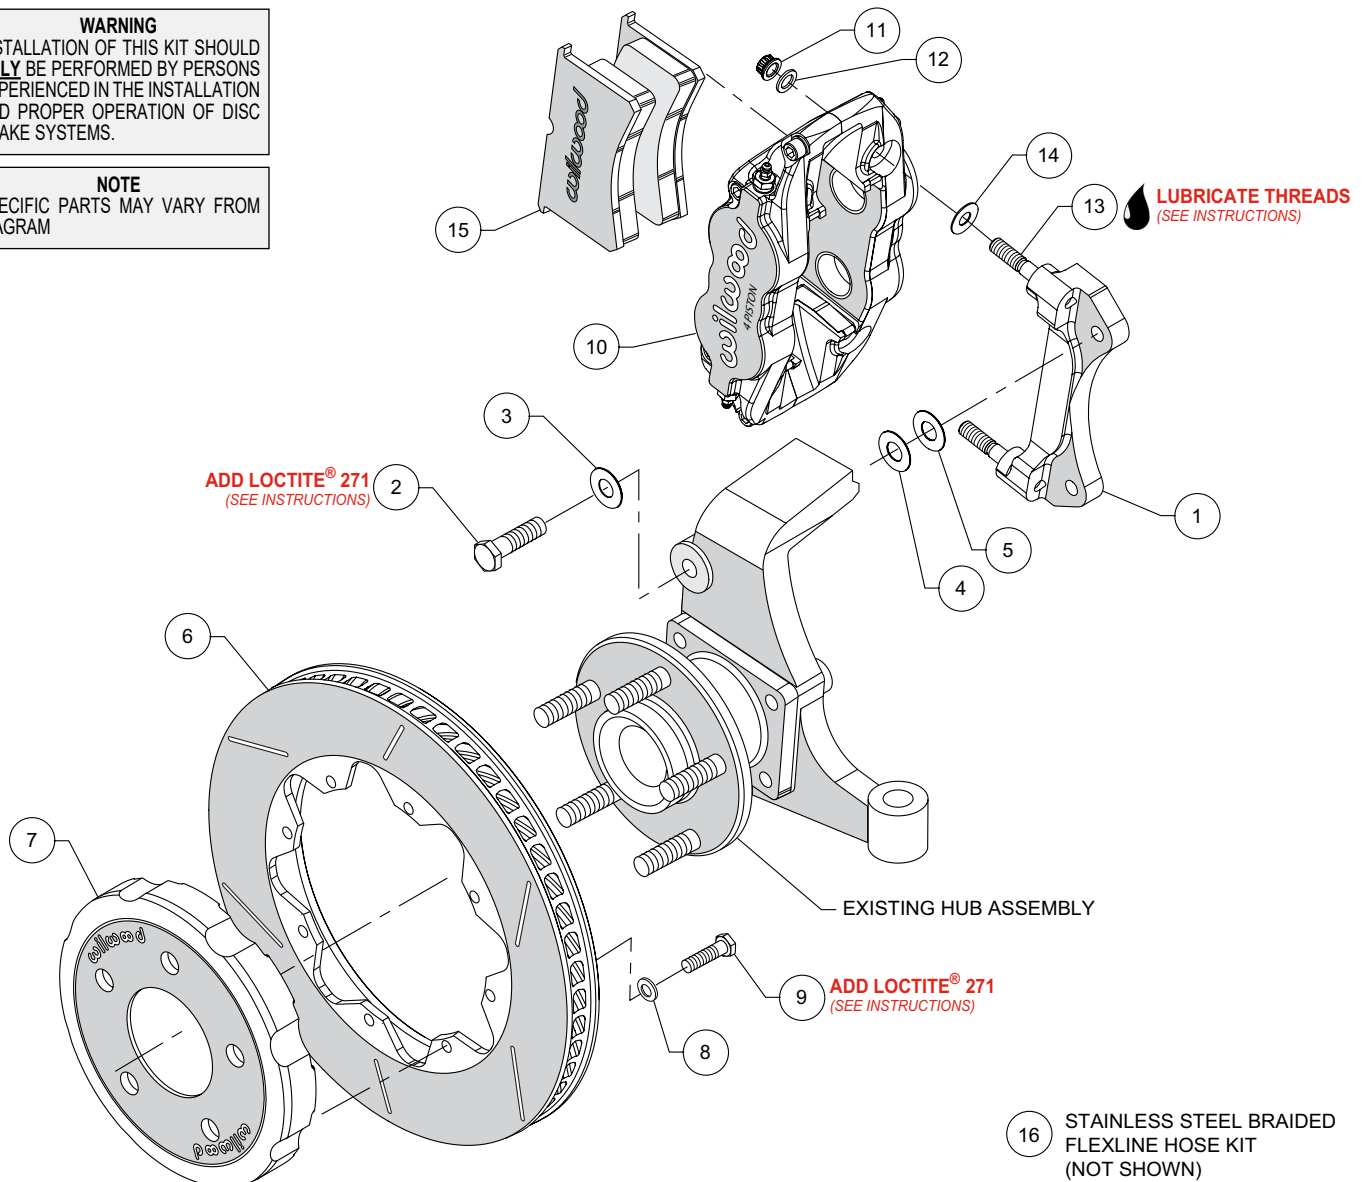
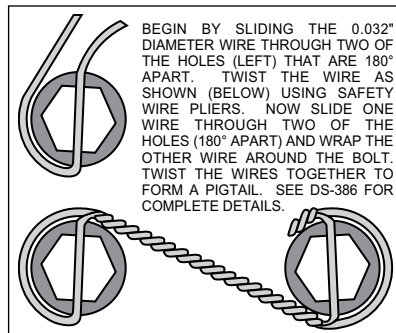

Figure 1. Typical Installation Configuration
Figure 3. Safety Wire Diagram
NOTE: Numbers in parenthesis refer to the parts list and Figure 1 on the preceding pages.
- The caliper mount bracket assembly (1) should be installed first with clean, dry threads on the mounting bolts. Install the bracket on the inboard side of the spindle by sliding bolt (2) through flat washer (3), and spindle ear from the outboard side of the spindle. Place two shim washers (4) between the bracket (1) and the spindle (see figure 1). The bracket must tighten squarely against the inboard side of the caliper mount bosses on the spindle body. Inspect for interference from casting irregularities, machining ridges, burrs, etc. Later, after the caliper, pad, and rotor alignment has been checked, and any necessary shims have been put in place, the mount bolts should be coated with red *Loctite*® 271 and torqued to 65 ft-lbs.
- With the larger I.D. side of the rotor (6) facing away from the hat (7), attach the rotor (6) to the hat (7) using washers (8) and bolts (9) as shown in Figure 1. Apply red *Loctite*® 271 to the bolt threads and torque to 25 ft-lbs using a criss-cross pattern. For an added measure of security, the bolts may be safety wired using standard 0.032 inch diameter stainless steel safety wire as shown in Figure 3. Please refer to Wilwood's data sheet DS-386 (available at www.wilwood.com/Pdf/DataSheets/ds386.pdf) for complete safety wire installation instructions.
- Lubricate caliper mounting studs (13) and nuts (11) with lightweight oil. Install two shims (14) over each stud (13) on the radial mount bracket. Slide the caliper (10) in place over the studs and rotor